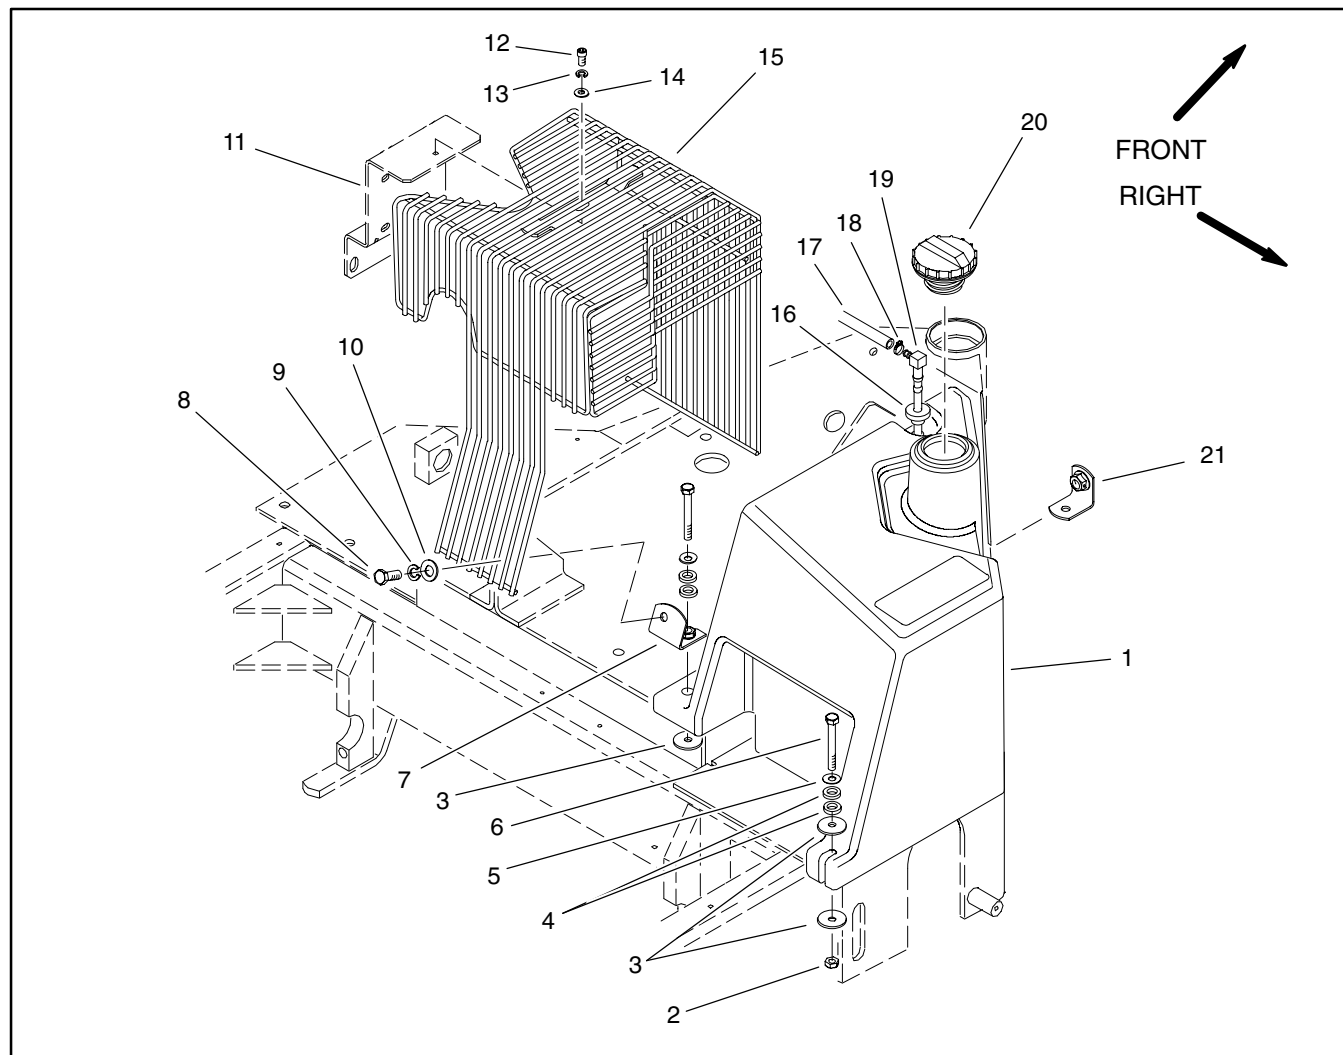

Figure 2
### Fuel Tank Removal (Fig. 2)
4. Remove fuel tank using Figure 2 as a guide.
### Fuel Tank Installation (Fig. 2)
1. Install fuel tank to frame using Figure 2 as a guide.